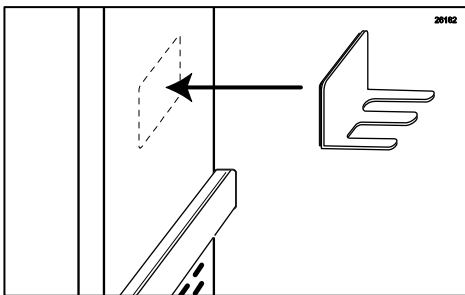

Figure 146
- Mount the Bracket to the desired area on the freezer. (See Figure 146.)